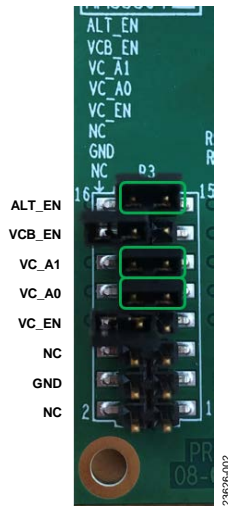

Figure 2. Connector P3 Jumper Configuration: Alternative 5 V Supply, Multiplexer, VCO Band 1, and Buffer Amplifier Enabled
4. Use the supplied shorting jumpers to configure the logic, as shown in Figure 2. In the configuration shown in Figure 2, alternative 5 V supply, the ADG1604 multiplexer, VCO Band 1 of the HMC8362 or HMC8364, and the output buffer amplifier are all enabled. When a jumper is disconnected, the corresponding signal is pulled up to V_{CC} . To reset a pin, connect the shorting jumper from the pin to the adjacent ground (GND). Figure 2 is annotated in green to indicate where a jumper is connected and thus shorted to ground.